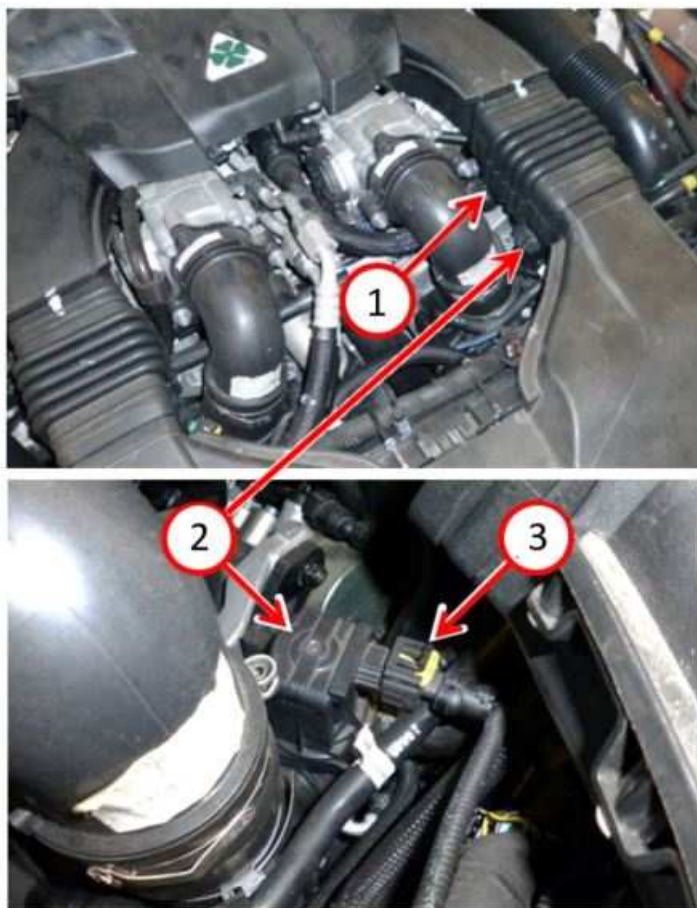

Fig. 1
1. Remove the left fresh air intake duct and inspect for any damage to the By-pass valve connector (Fig. 1) .